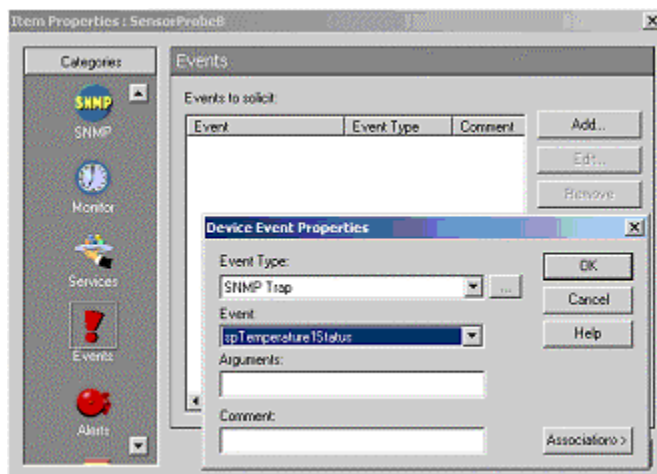

Figure 10 Device Event Properties dialog box
3.3 Press Add button located on the right pane. The device event properties dialog box will come up (see Figure 10).